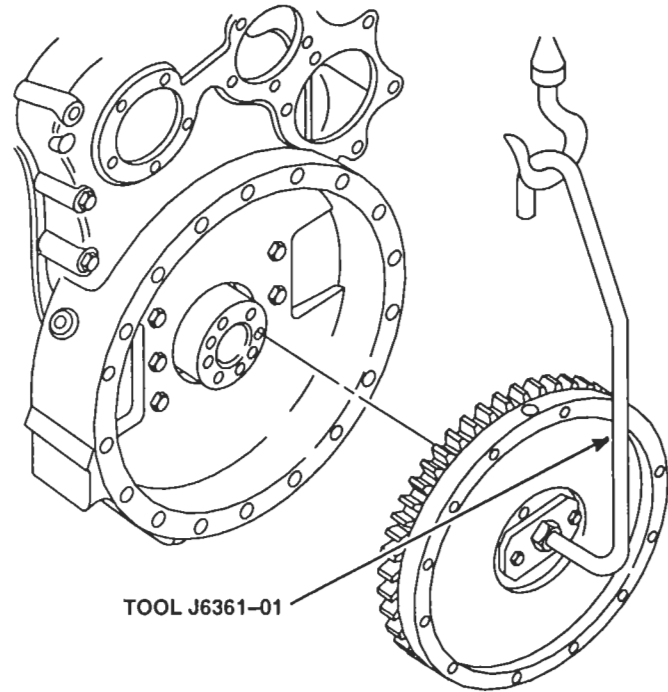

Figure 3. Removing Flywheel Using
3. Attach a chain hoist to the lifting tool to support the flywheel (Figure 3.)